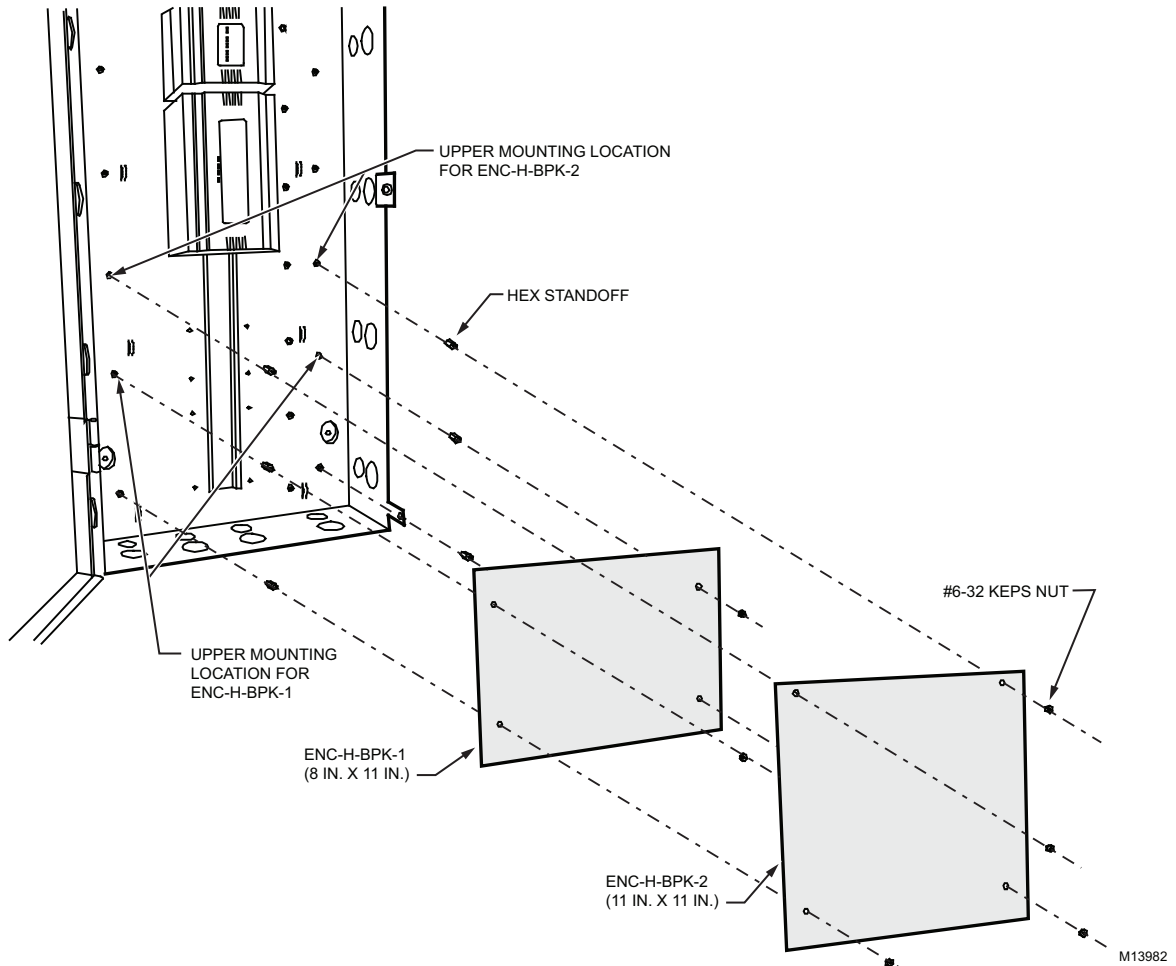

Fig. 4. ENC-H-BPK-1 and ENC-H-BPK-2 backplate mounting details.
1. At the bottom back of the ENC-H-002 enclosure, fasten the four male-to-female hex standoffs on the appropriate enclosure studs, as shown in Fig. 4.